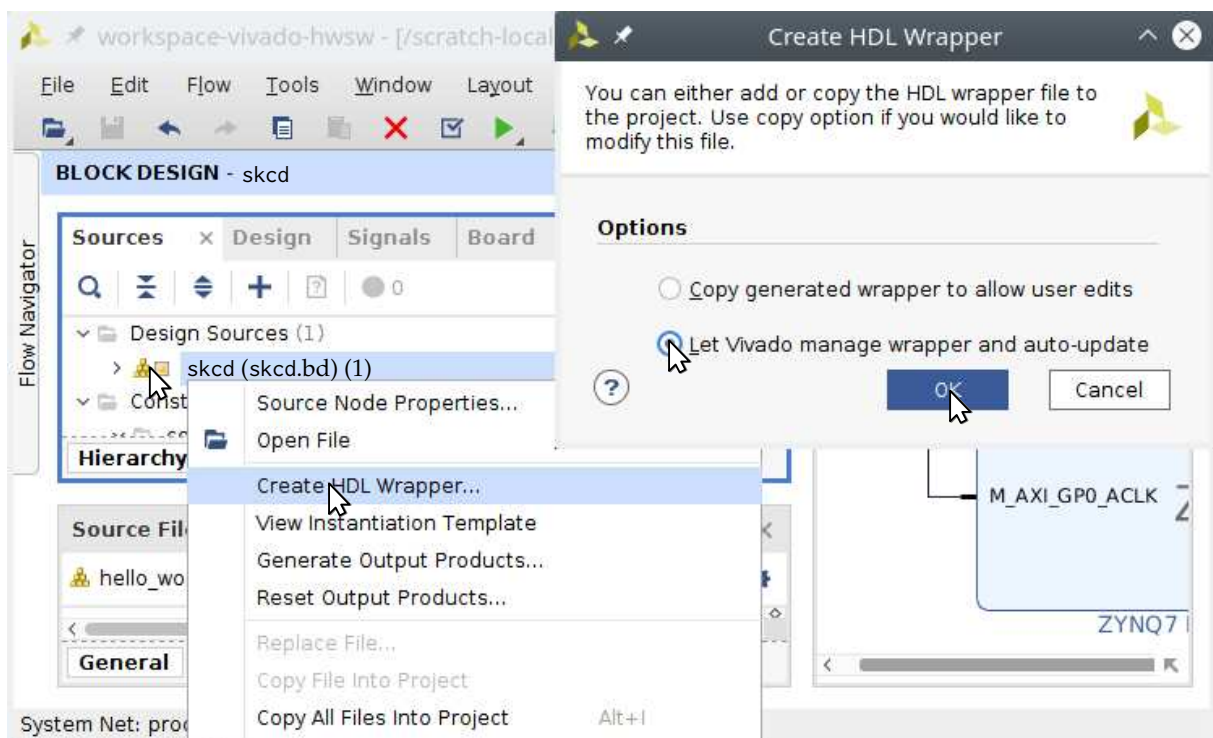
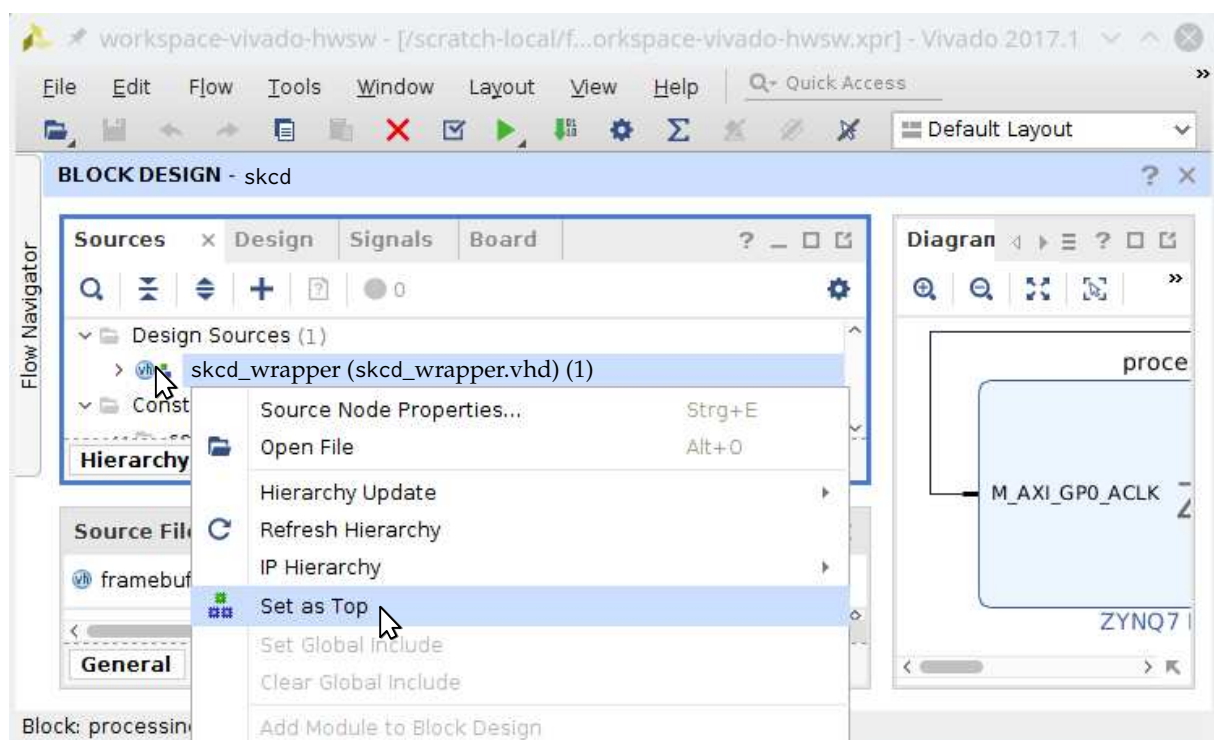

Figure 36: Create a HDL wrapper around the block design
Figure 37: Set the wrapper as top module for synthesis
- v) Subsequently, create a HDL wrapper (see Figure 36) around the block design and set it as the top module (see Figure 37). If the *Set as Top* command is grayed out, then the wrapper is already the top module.